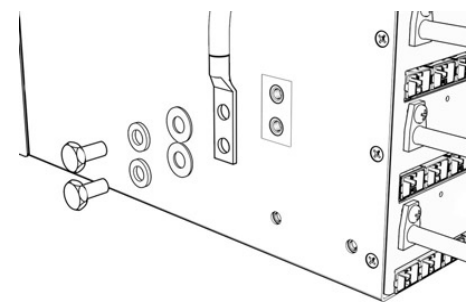

Figure 4. Chassis Ground
- Step 1.** Secure the ground cable to the chassis by tightening 1/4 in. hardware (see Figure 4).